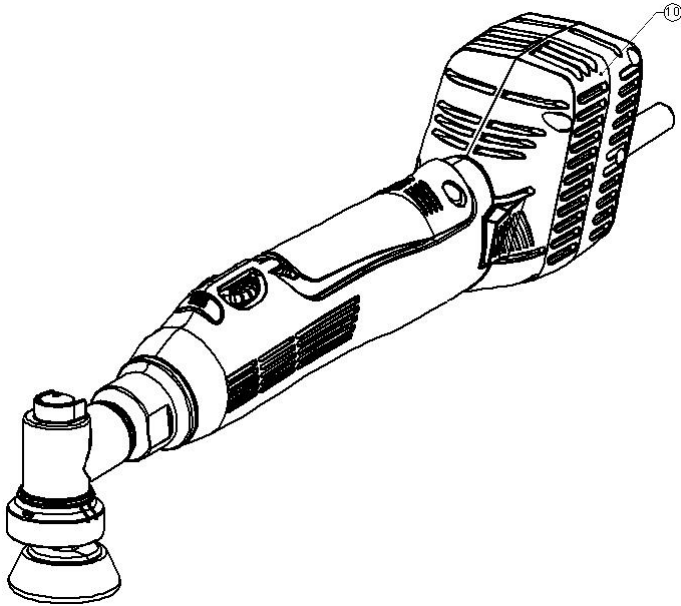

Fig. 2
- 10 - Power supply 9HP120LT (optional) (Fig.2)